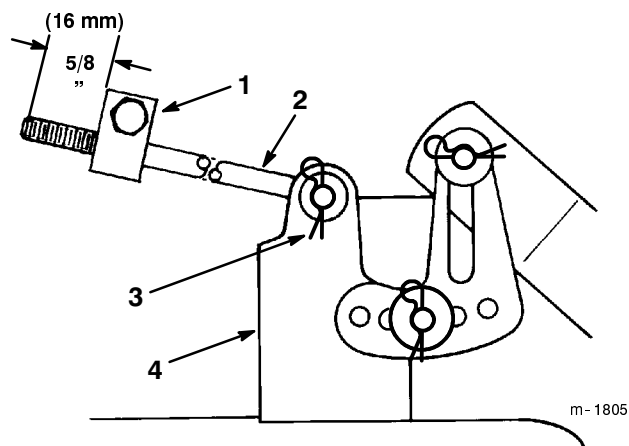

Figure 47
6. Measure the length of the rod extending out the front of the adjusting block on the sides of the chassis (Fig. 47). If the rod length is not 5/8" (16 mm), remove the hair pin cotter and washer from the end of the rod (Fig. 47), and turn the rod until the 5/8" (16 mm) dimension is obtained. Then install the end of the rod into the hole in the mower mount and secure in place with washer and hair pin cotter. Repeat this procedure on the opposite side of the mower.